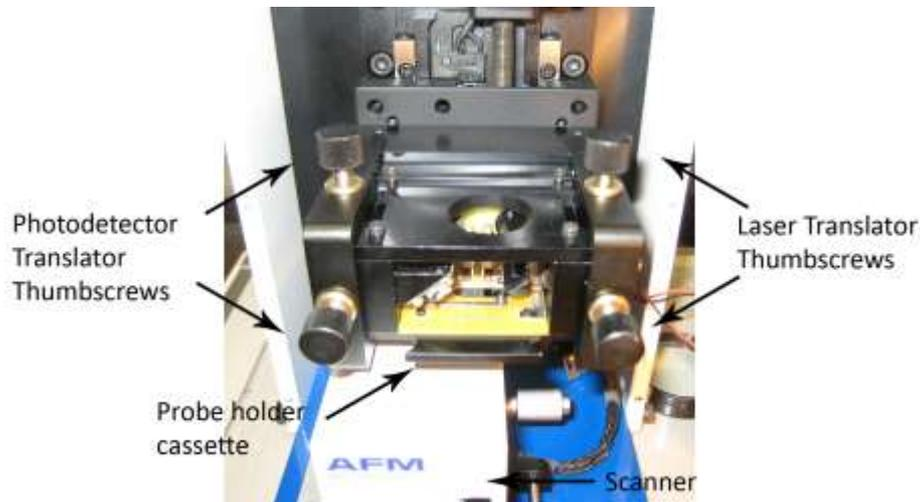

Figure 2: AFM Head, indicating location of thumbscrews for translation of laser and photodetector
11. Align laser on probe using the two laser translation thumbscrews located at the top and front of the AFM head; see figure 2.